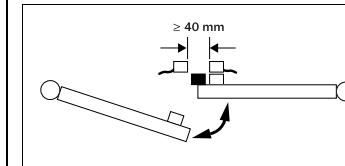

Fig.7: Mounting example on swivelling doors
- Minimum distance between two adjacent magnetic safety switches: 40 mm. On swivelling doors the actuator is to be fitted to the closing edge (Fig.7).